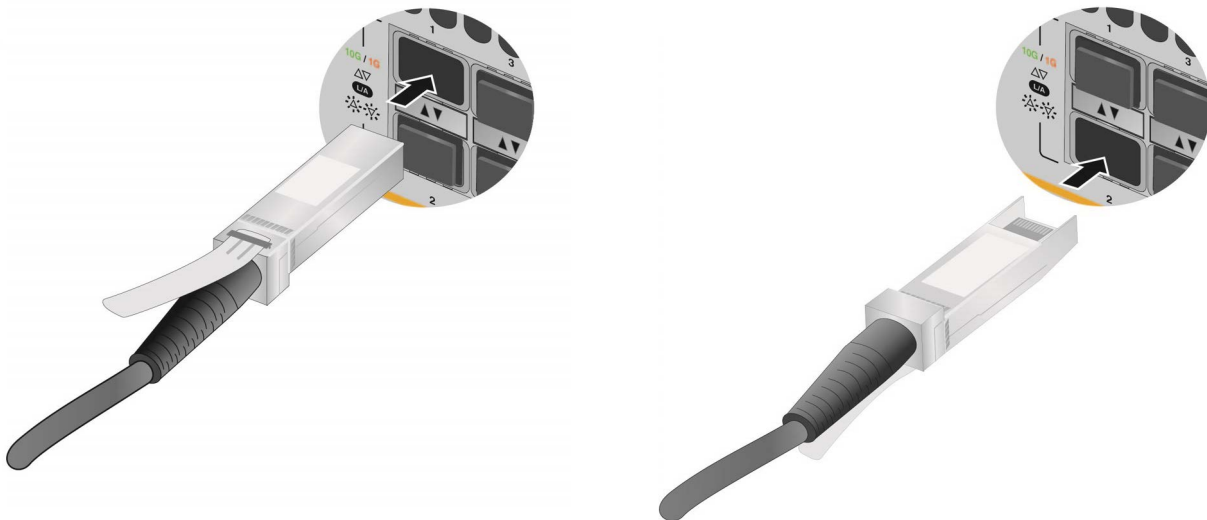

Figure 83. Installing AT-SP10TW Cables
3. To install the transceiver in a slot in the top row, position the transceiver with the Allied Telesis label facing up. To install the transceiver in a slot in the bottom row, position the transceiver with the label facing down. Refer to Figure 83 on page 172.